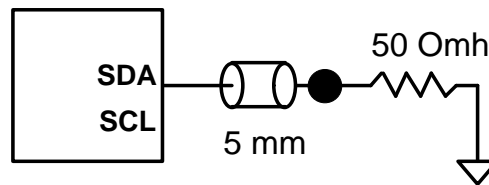

Figure 21. Output Slew Rate and Output Timing Reference Load
4. and Figure 21. Output Slew Rate and Output Timing Reference Load
5. shows the timing measurement points. For slew rate measurements, the V_{OH} level shown in Figure 21. Output Slew Rate and Output Timing Reference Load